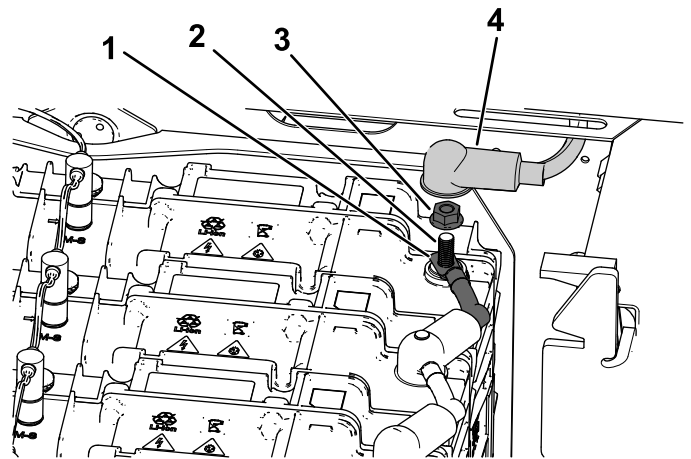

Figure 44
2. Remove the flange nut and negative (-) battery cable from the battery post (Figure 44).
1. Secure the negative (-) battery cable to the battery post using the flange nut (Figure 44).
2. Install the negative (-) battery terminal boot over the battery post (Figure 44).